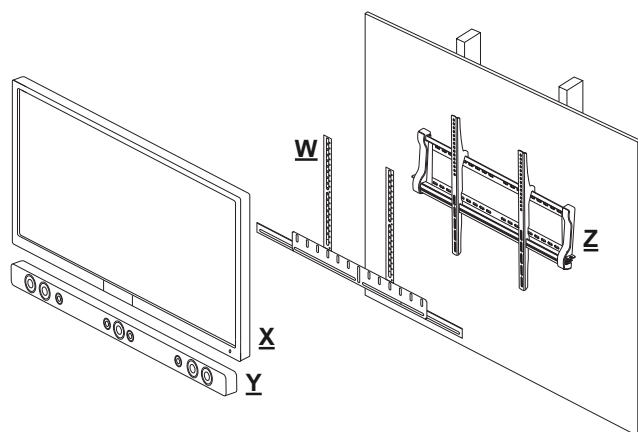

Fig. 27
- 3-1. Attach the Horizontal Support Plate (A1) to the protruding screws of the Vertical Metal Exterior Bars (A2) and secure using two M8 Washers (SB) and two M8 Nuts (AF). Make sure it is even and parallel with the frame of the TV, then tighten fully. (Figs. 27 & 28).